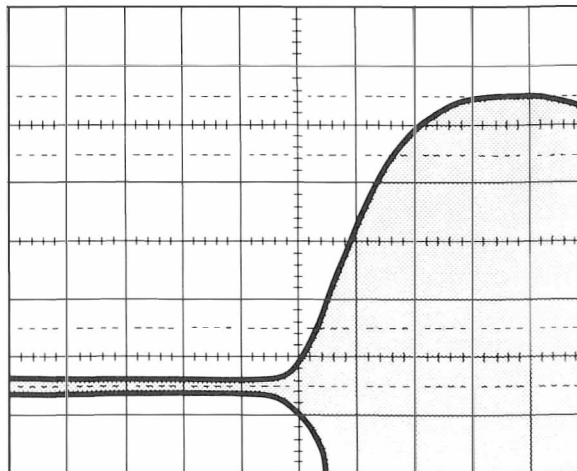

Figure 5-49c. Pulse Modulation Rise Time Waveform
- Adjust the oscilloscope as in step 4 except the horizontal period should be adjusted so only the rising edge of the pulse is viewed. Refer to Figure 5-49c. Set the 10% point of the modulation envelope at the center vertical graticule line.